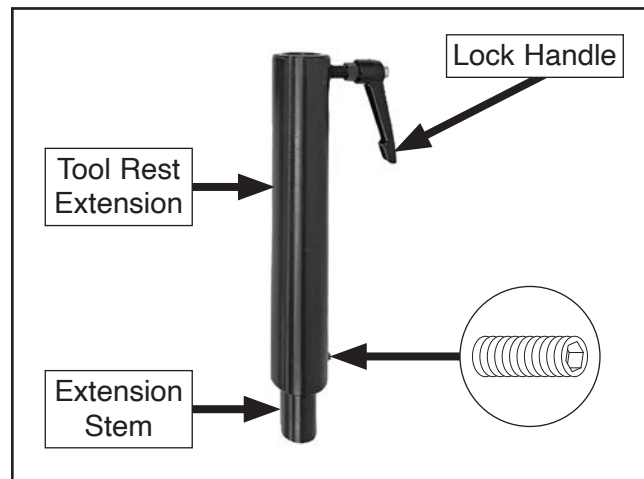

Figure 55. Tool rest extension components.
2. Loosen set screw on tool rest extension and install extension stem, then tighten set screw to secure (see **Figure 55**).
3. Loosen tool rest extension lock handle (see **Figure 55**).